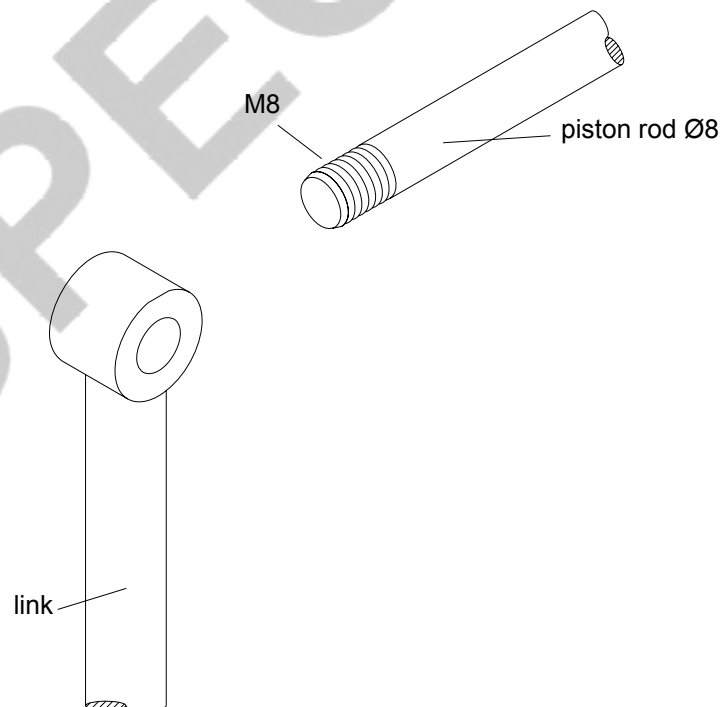

Fig. 5
- (a) On Fig. 5 draw a design for a connector that will allow the M8 piston rod of the cylinder to be attached to the link mechanism.